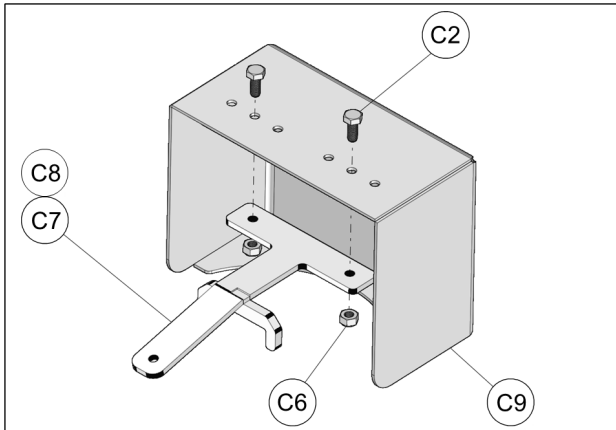

Fig. 13
13. Assemble protector box support (C7-C8) and hub protector box (C9), using M10x25mm bolts (C2) and M10-1.5 nylon nuts (C6) provided. See Fig. 13